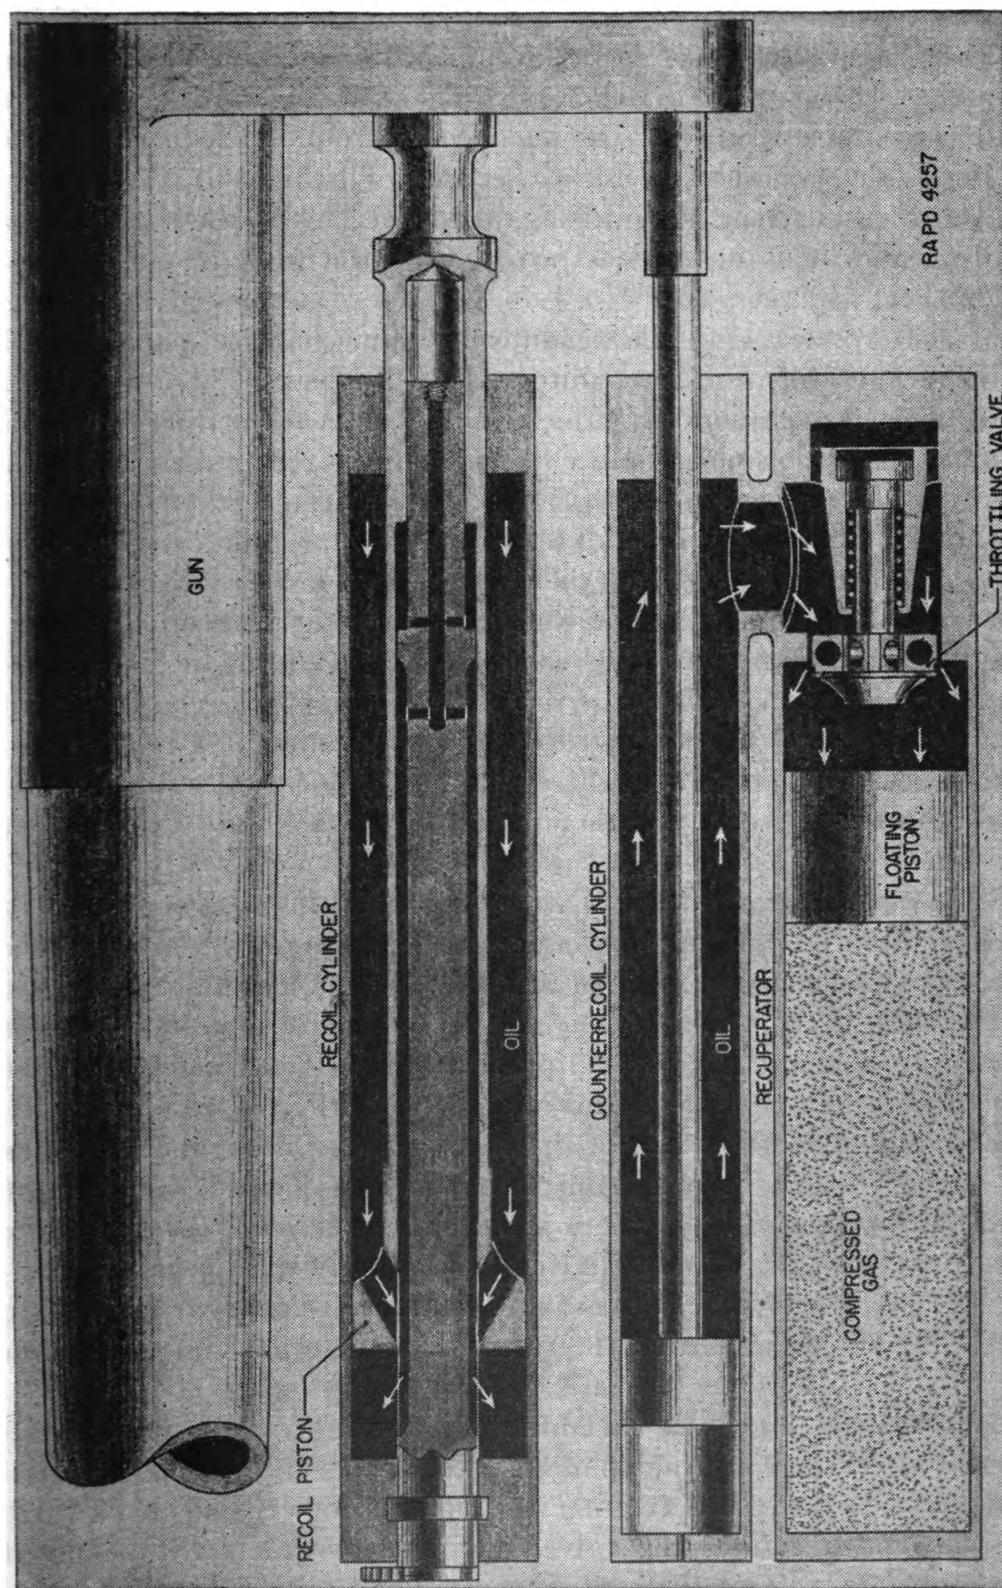
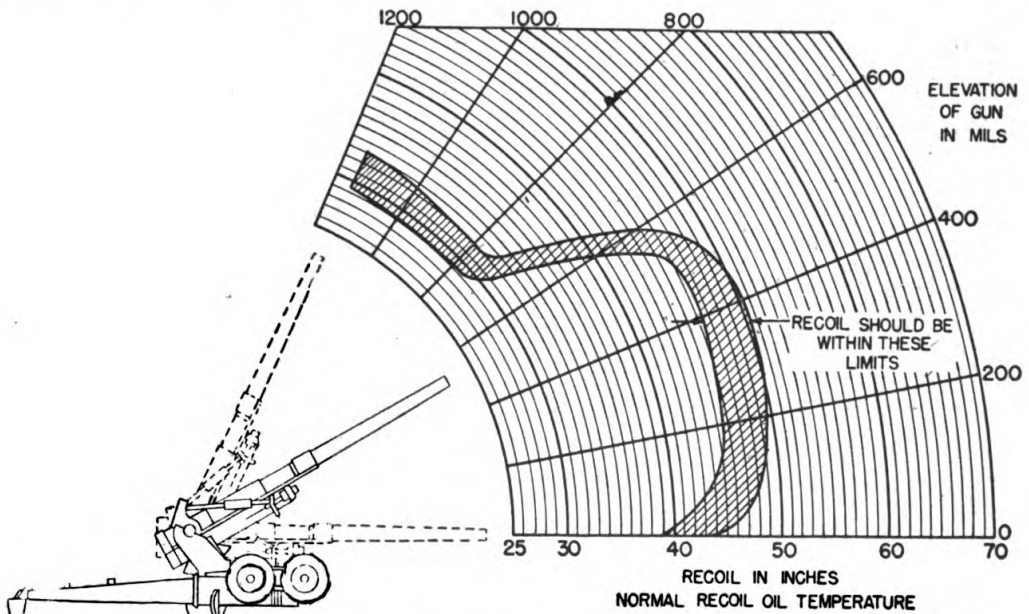

FIGURE 14.—Recoil and counterrecoil mechanism—schematic diagram.
FIGURE 24.—Limits of length of recoil—normal charge.
*b. Recoil.*—(1) The operation of the recoil and counterrecoil mechanism can be seen from the schematic drawing, figure 14. The recoil and counterrecoil piston rods are connected to a lug at the breech end of the gun, and move with the gun in recoil and counterrecoil. The function of the recoil mechanism is to absorb the energy of recoil. The function of the counterrecoil and recuperator mechanisms is to return the gun to firing position. However, the latter mechanisms also absorb some of the energy of recoil.
(2) During recoil, oil in the recoil cylinder is throttled through openings past the recoil piston and the motion of the gun is slowed up and recoil energy absorbed. The control rod, which is housed in the recoil piston rod, remains stationary during recoil. Rotation of the control rod controls the grooves through which the oil is forced past the piston and thus provides a variable recoil. The forward end of the control rod mounts a gear segment which matches a similar gear segment connected to the variable recoil turning valve cam. This cam is linked to the top carriage by a connecting rod to give a rotative motion to the gear segment and control rod as the gun is raised or depressed in elevation. Raising the gun changes the grooves in the recoil cylinder through which the oil is throttled and shortens the length of recoil.
(3) A graph showing the limits of recoil permissible with the propellant charges for two different muzzle velocities are shown in figures 24 and 25. If the recoil does not fall within the limits therein designated when the gun is operating at normal temperature, the oil reserve in the replenisher and the recuperator cylinders should be checked immediately. If the oil reserves are normal, the ordnance maintenance company should be notified.
(4) The rear end of the control rod acts as a buffer at the end of the countercoil motion. A mechanism is provided that throttles a small amount of the recoil oil through throttling grooves and into the recoil cylinder, and slows down the counterrecoil action so that the gun is eased into the battery position.
*c. Recoil.*—During firing, the length of recoil should be measured for the first and last rounds and at intervals between when practicable. Figures 24 and 25 show the limits of allowable recoil of the gun at all elevations, for muzzle velocities of 2,100 foot-pounds and 2,800 foot-pounds, when operated at normal temperature of the recoil oil (70° F.). For the first round fired at other temperatures, the length of recoil may not be within the limits shown in the illustra-